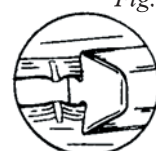
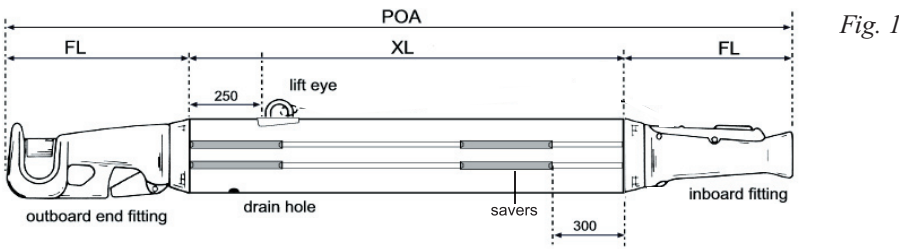

Fig. 4
Fig. 1
1. Spinnaker pole kit - dip pole, section 72/72 and 84/84.*Fig. 1*
- 1.6 Refit the inboard end fitting with adaptor (if any) and carefully check that it is correctly positioned in relation to the outboard one. (fig. 1).
- 1.13 Slide the inboard savers into position as shown in fig. 1 and lock them by deforming the groove at the ends of the savers using a screwdriver. Note how the outboard savers are locked, see fig. 4.
- 2.7 Refit the inboard end fitting with adaptor (if any) and carefully check that it is correctly positioned in relation to the outboard one. (fig. 1). Check that the line and rubber cord have not jammed
- 2.16 Slide the inboard savers into position as shown in fig. 1 and lock them by deforming the groove at the ends of the savers using a screwdriver. Note how the outboard savers are locked, see fig. 4.